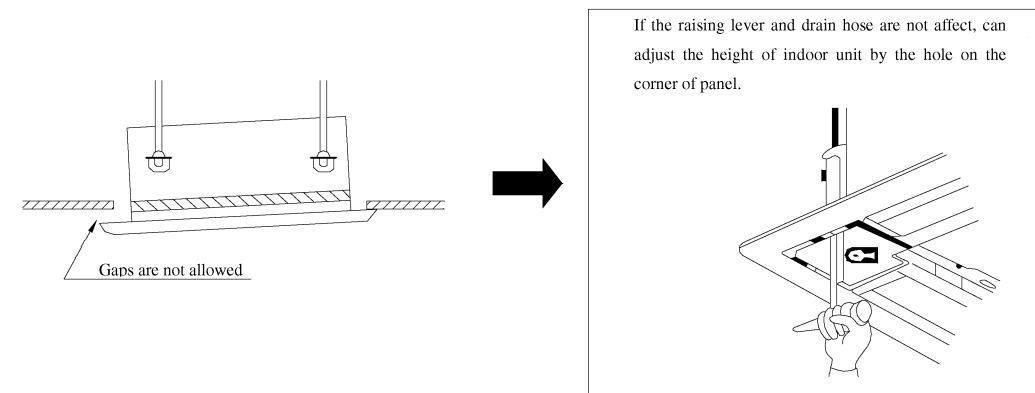

Fig.11
2. If gap still exist between ceiling and decoration panel after tightening the screws, readjust the height of the indoor unit. (As shown in fig.11)